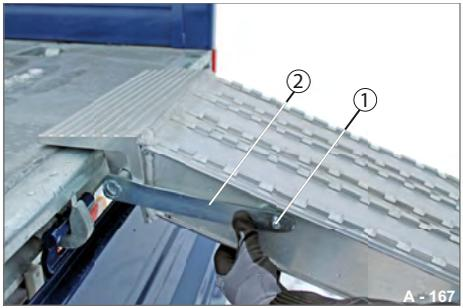

Fig. 178 Repositioning the locking lever
► Press the locking lever (Fig. 178/2) onto the retaining bolt (Fig. 178/1).